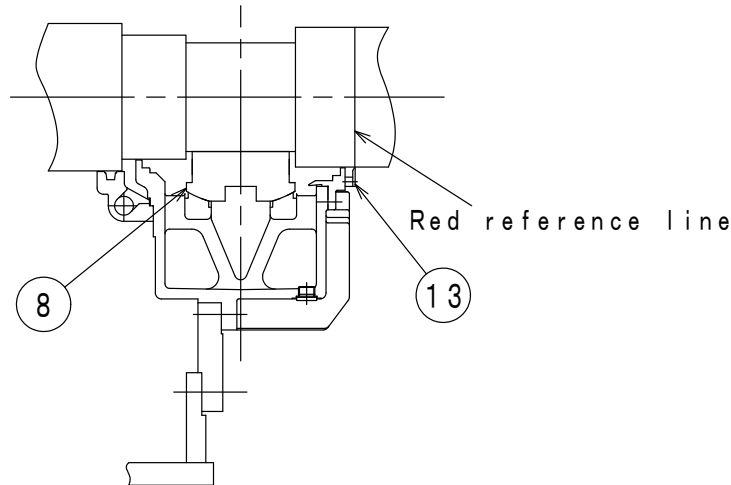

Fig. 13-10
- (1) Reassembly of bearing housing lower half
- (2) Reassembly of bearing shell lower half
- Confirm that magnetic center gauge ⑬ mounted to the bearing housing lower half on the drive end side is matched with the red reference line indicated on the shaft (see Fig. 13-10).